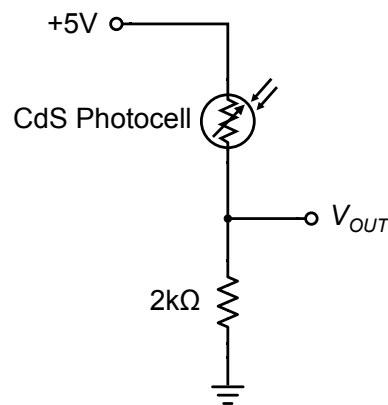

Figure 3 – A CdS photocell is wired up in a voltage divider circuit. The output voltage V_{OUT} depends on the light intensity incident on the photocell.
1. Sketch the circuit diagram shown in Figure 3 in your lab notebook.
5. Use Eq. (1) to compute the output voltage V_{out} for the values of V_{in} and R_2 in the circuit drawing and the values of $R_1 = R_{dark}$ and $R_1 = R_{light}$ that you just measured.
6. Use the breadboard to create the photocell voltage divider circuit shown in Figure 3. Make sure you use the fixed 5V DC power supply on the breadboard.
9. Compare the resistances and voltages to what you computed using Eq. (1). Do the values make sense?